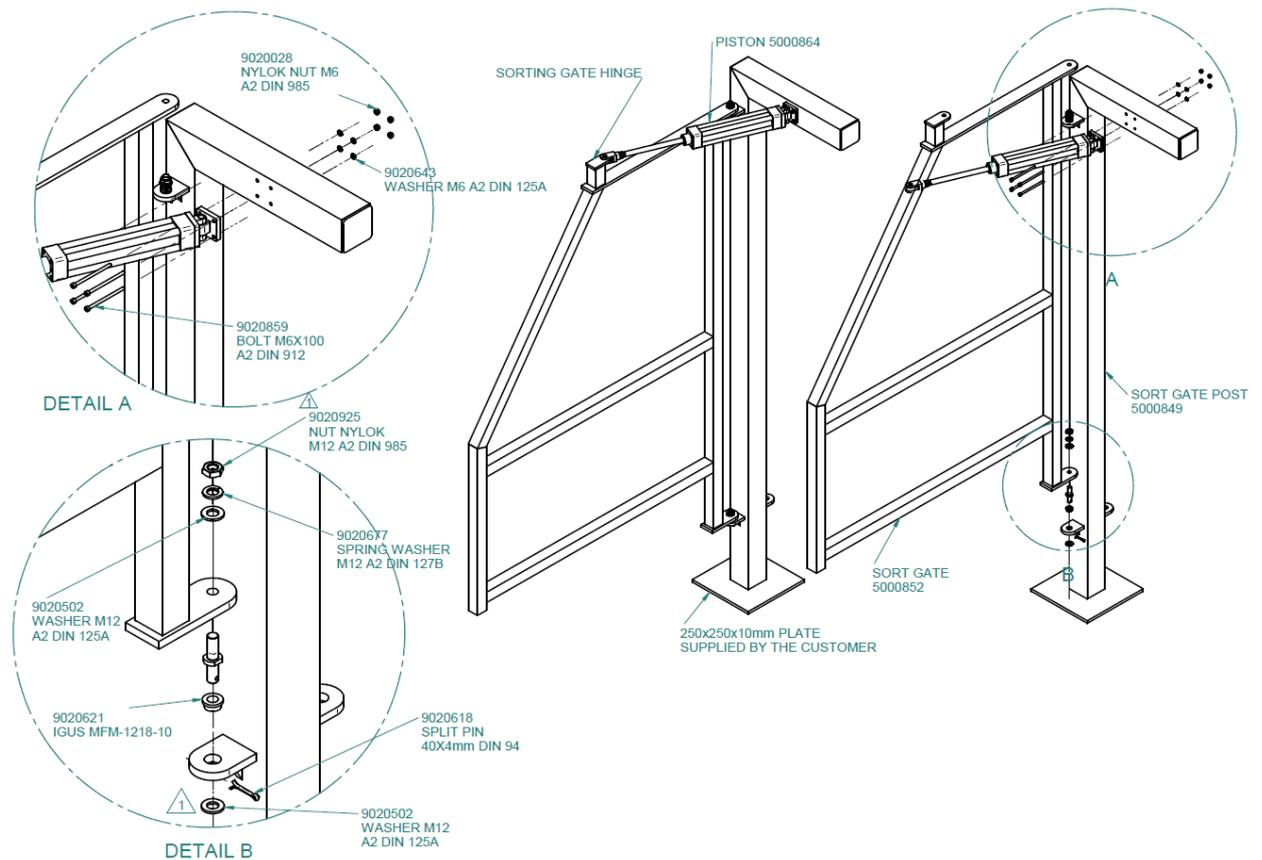

Figure 8: Gate Installation
4. Place a washer on the hinge pin and secure it with a cotter (split) pin, as shown in figure 8, above.